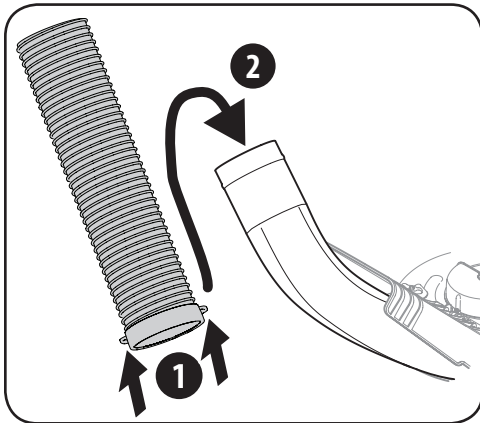

Figure 4-24
2. Lift by the handles at the bottom of the chute tube. Slide the chute tube over the chute elbow mounted on the cutting deck, as shown in Figure 4-24.